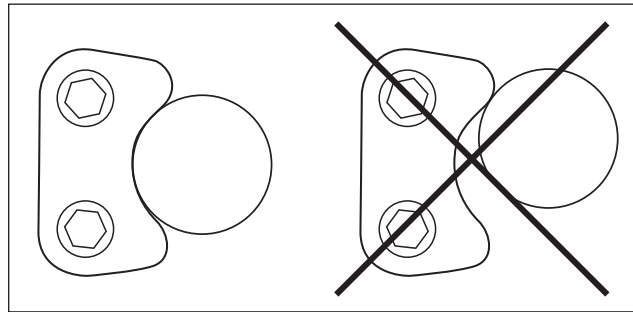

Figure 26
12. Carefully close the tailgate. If necessary, adjust the saddle block slightly up or down to align it with the horizontal tube. This will be set in final position later once wheel/tire assembly is installed, but it needs to align well enough to close in the meantime (fig. 26).